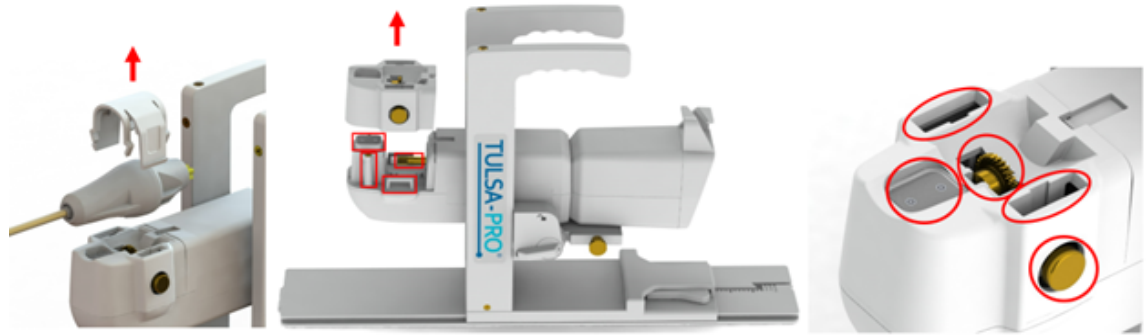

Figure 66: Inspecting the Positioning System
- c. Repeat steps 1 and 2 as necessary until no visible soiling remains, closely inspecting the areas around the gripper and gear (Figure 66).